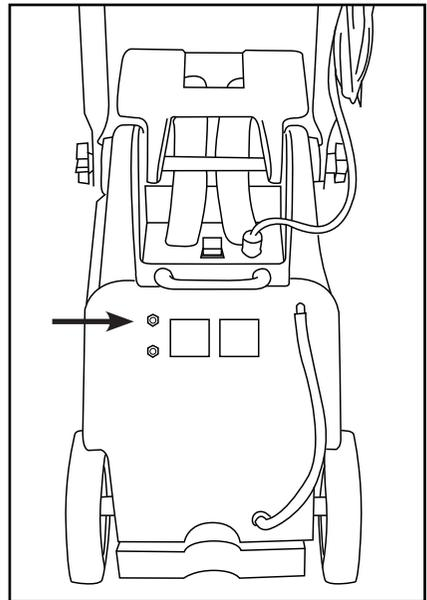

Figure 2
- If brush stops, the circuit breaker may have been tripped. Unplug power cord and check brush for obstruction. Push brush reset button to resume (fig 2).